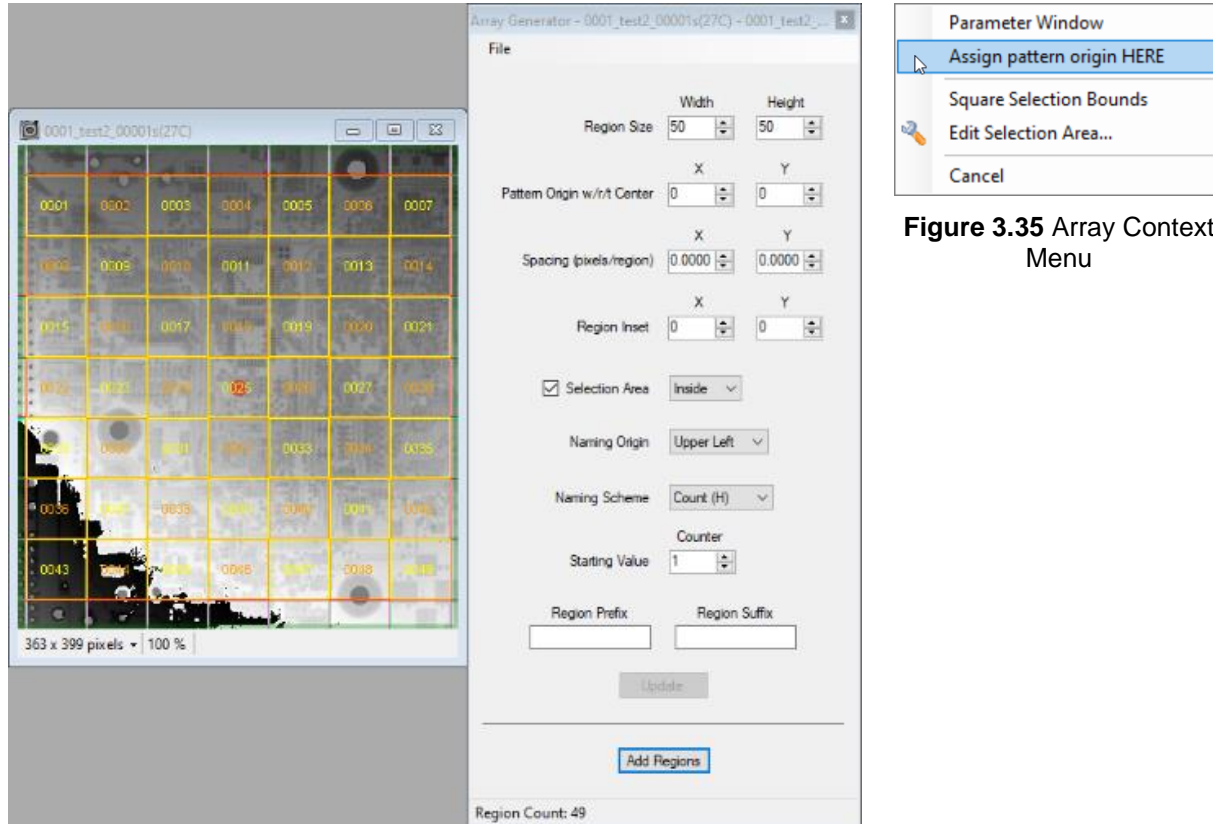

Figure 3.34 Partition Array Parameters
2. A checkerboard pattern representing where partition regions will be placed appears on the phase image. Also, a window with various array parameter options appears (**Figure 3.34**). **Width** and **Height** refer to the individual dimensions of each partition region. The **Pattern Origin** is the distance of the center of the pattern from the center of the image. **Spacing** controls how much space exists between each partition region. **Region Inset** refers to how much of each pattern region is covered by the final partition (a larger inset reduces the size of each partition region). Finally, **Selection Area** controls whether the partition array is placed inside or outside the green bounding box. Each option affects all ROIs in the same way.